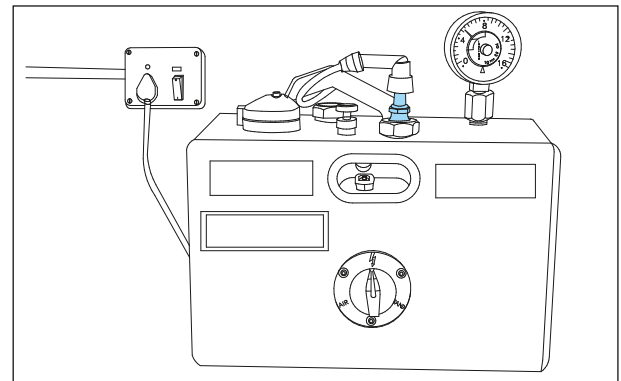

Fig. 2.34
- Check the spark plug for correct spark performance in the spark plug tester. (Fig. 2.34)
**Note:** While checking the spark performance, ensure that the selector knob (A) of the machine is in checking mode (⚡) as shown in the figure. (Fig. 2.34)